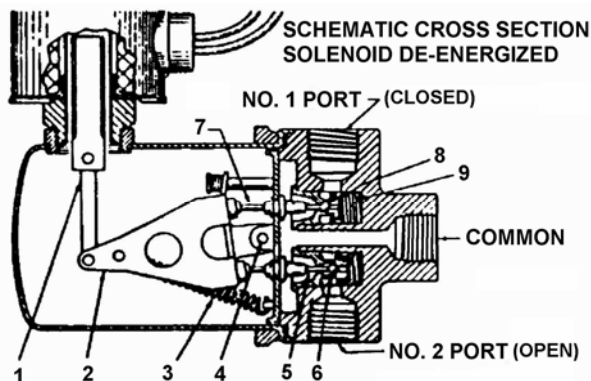

Fig. 2 Lever Action Type Valve De-Energized
The valves have two operating positions (shown in Figures 2 and 3). Being of the single magnetic type, they cannot assume an intermediate position, but have No.1 port open to common and No 2 closed when current is on and No 2 open to common and No 1 closed when current is off. The valve functions is reversed for option A100-A104.
When the solenoid is de-energized, the weight of the solenoid plunger assembly (1, Figure 2) and operating link plus the force of spring (3) holds No. 2 port push rod (5) in against No. 2 port valve (6), opening No. 2 port to common. At the same time No. 1 port push rod (7) is released, allowing No. 1 port valve spring (9) to close No. 1 port valve (8) to common.
5. Unhook rocker tension spring (3, Figure 2) and remove.
6. Drive out shaft (4) and remove rocker arm (2), link and plunger (1) from mounting plate as an assembly, taking care not to spring valve port push rods (5 and 7).